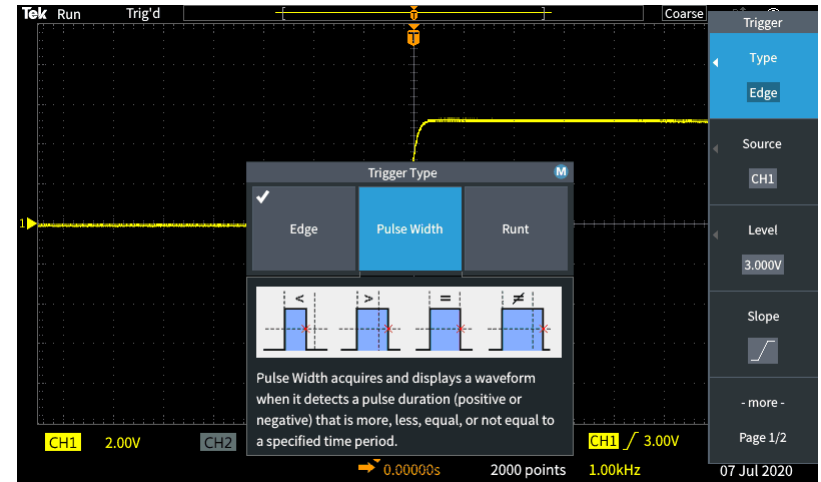

Figure 6. Trigger selection using MPK to select
6. Press **Menu** in the Trigger section. Press the **Type** side-bezel button (Figure 6). Note that the LED next to the multipurpose knob (MPK) is lighted, prompting for a selection.